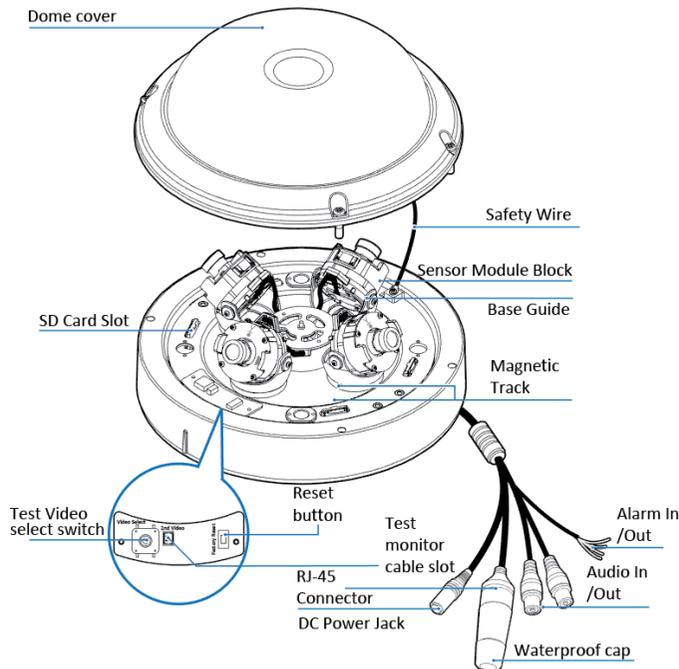

Figure 1
1. Use the Torx wrench to remove the four screws on the camera dome (Figure 1) and remove the dome from the camera base.
Camera Parts: Figure 1